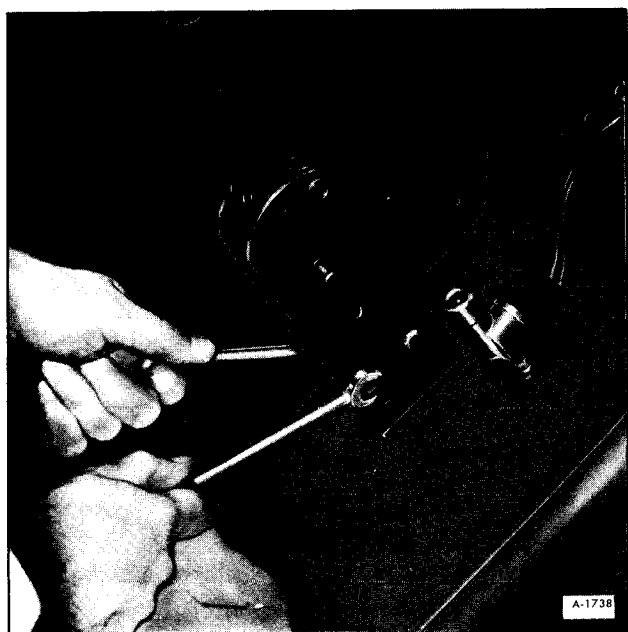

Figure 24—Removing Cable Retaining Bracket
2. Remove two nuts and bolts on cable retaining bracket, as shown in Figure 24.